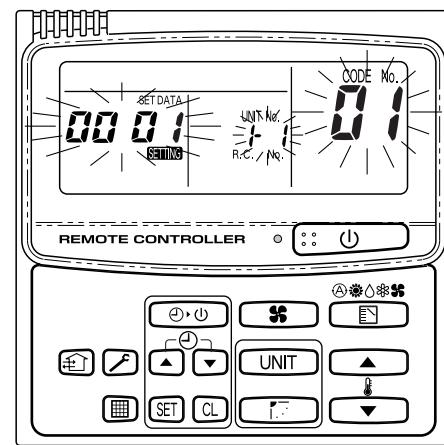

Fig. IV-13
(I) Change the period of the filter timer (Ref. Fig. IV-13)